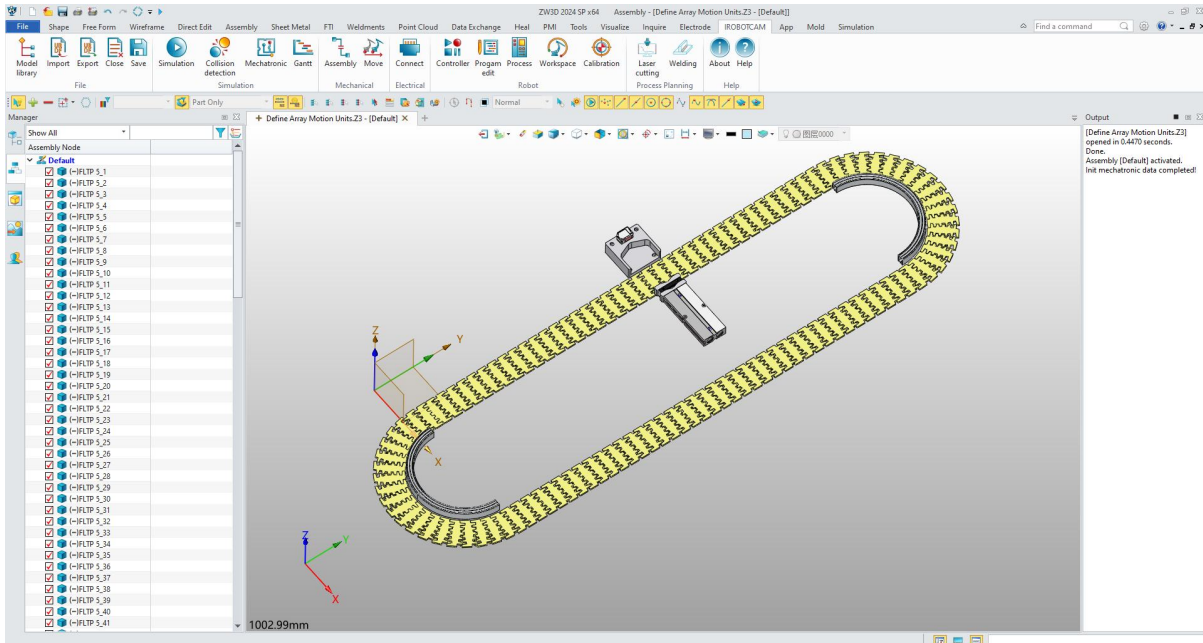

Figure 7-4: Component Details
- Open the details of the interface components. (Figure7-4)